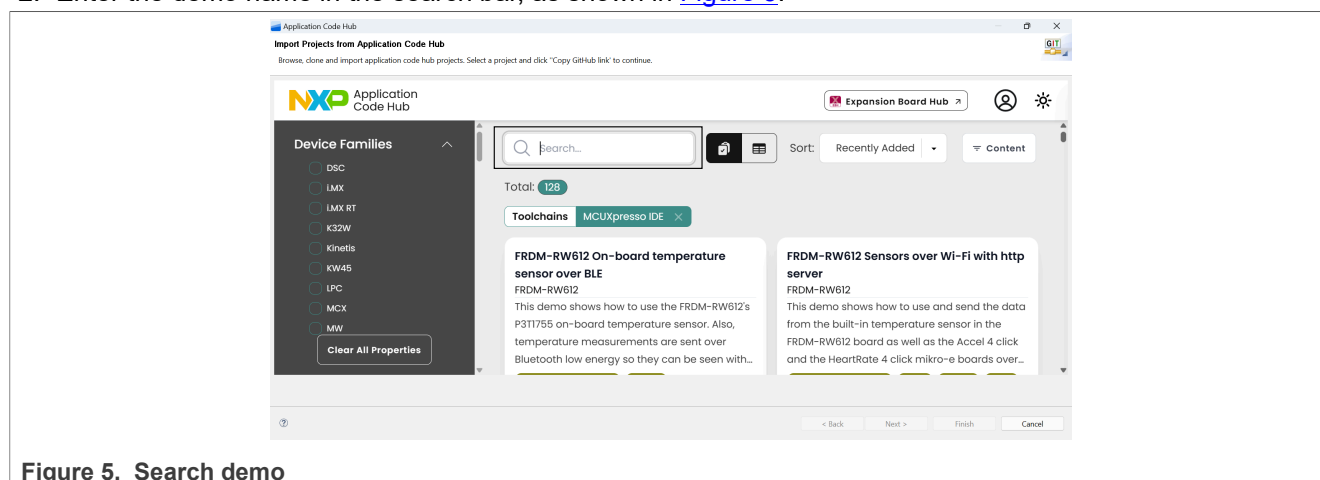

Figure 5. Search demo
2. Enter the demo name in the search bar, as shown in Figure 5.